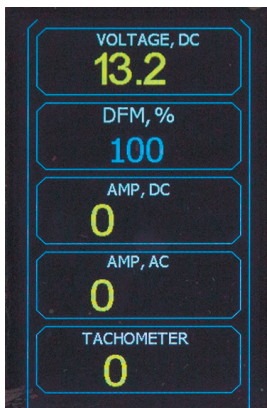

Fig. 6. Display data output when testing an alternator with D+ terminal or a starter
- **D:** indicator of set generation voltage when testing alternators with P-D terminal (Fig. 6).
- **P:** stator winding frequency indicator when testing alternators with P-D terminal (Fig. 6).